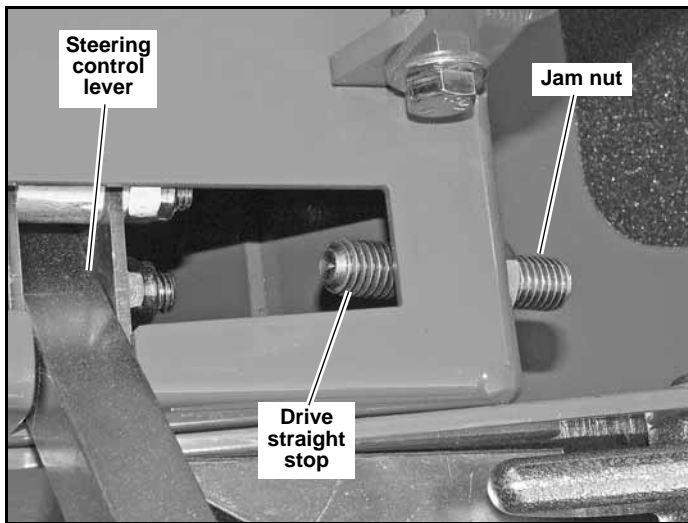

Figure 4-5
1. Determine which drive tire is rotating too fast when both steering control levers are against the drive straight stops in the control panel (see Figure 4-5).